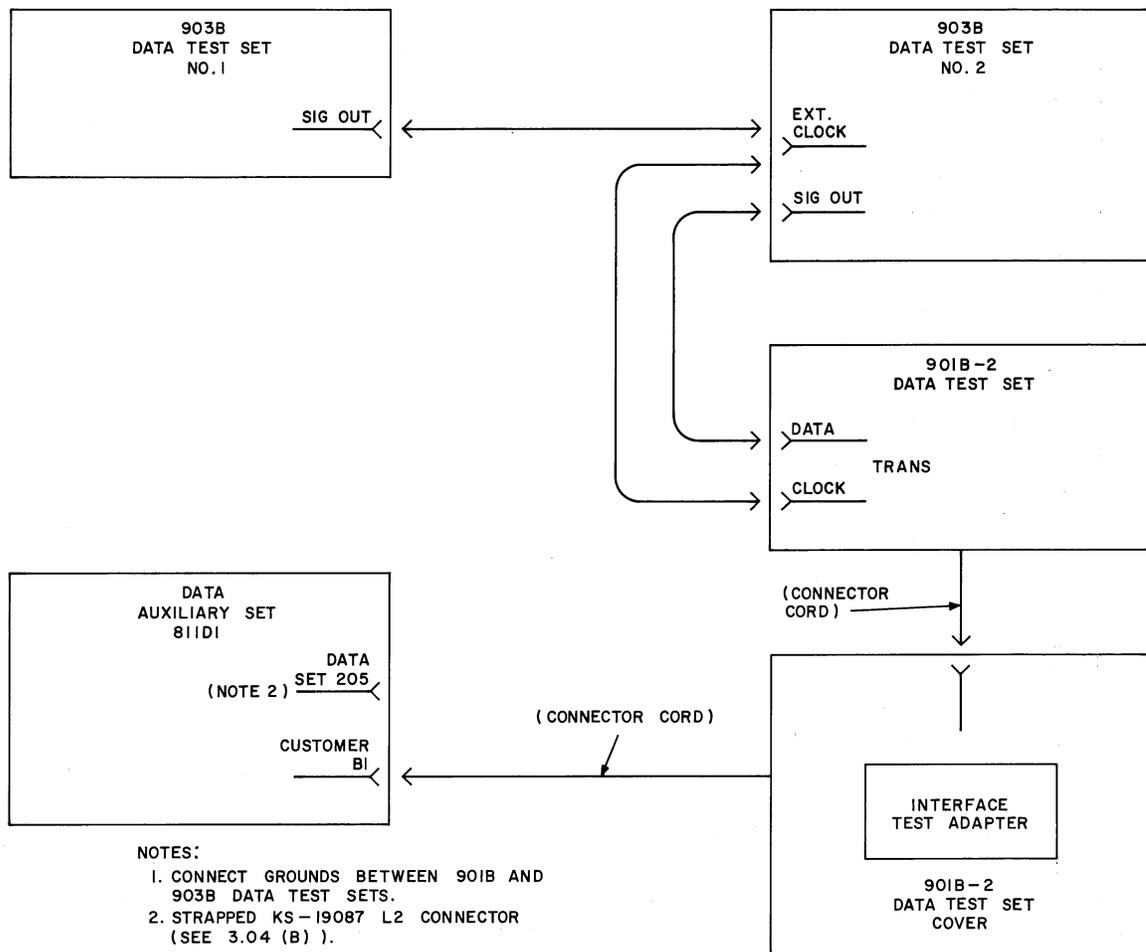

Fig. 1—Data Auxiliary Set 811D1, Test Set Connections
- (1) Open shorting clips 4, 6, 8, 9, 10, 11, 12, 13, 14, 15, 16, 17, 18, 21, 22, 23, 24, and 25.
- (2) Strap shorting clips EQ 15 to TST 21, EQ 14 to 19, and EQ 12 to TST 15.
3.06 Prepare the two 903B test sets as follows and connect the test equipment as shown in Fig. 1.